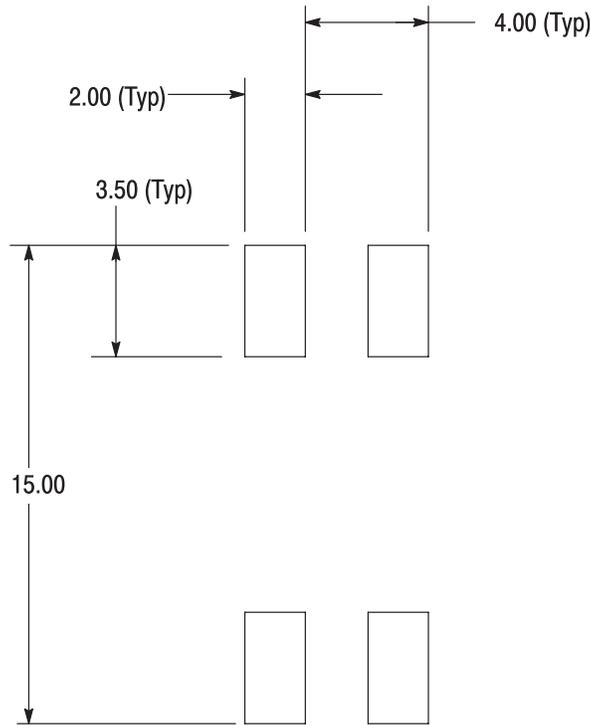

Figure 10
The stencil aperture shall be determined by the circuit pad size and stencil thickness. It may be any shape as long as it prevents solder bridging from one pad to another. Generally, the thinner stencil will need a larger aperture to maintain the given volume of solder paste. See Figure 10.
*The stencil layouts illustrated apply to the top (connector) side (unless otherwise noted) of the pc board. For any other variations, refer to the pc board mounting configurations on the appropriate customer drawing to determine modifications necessary to the solder stencils in Figure 10.*